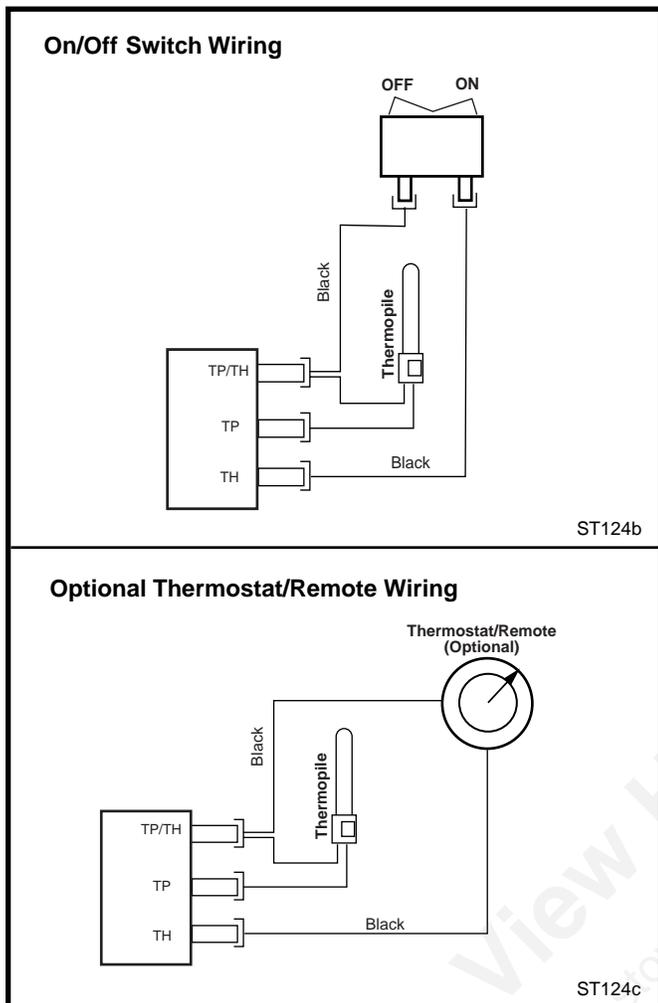

Fig. 17 ON/OFF switch and optional Thermostat/Remote wiring.
2. Connect the thermostat wires to the valve. (Fig. 17)